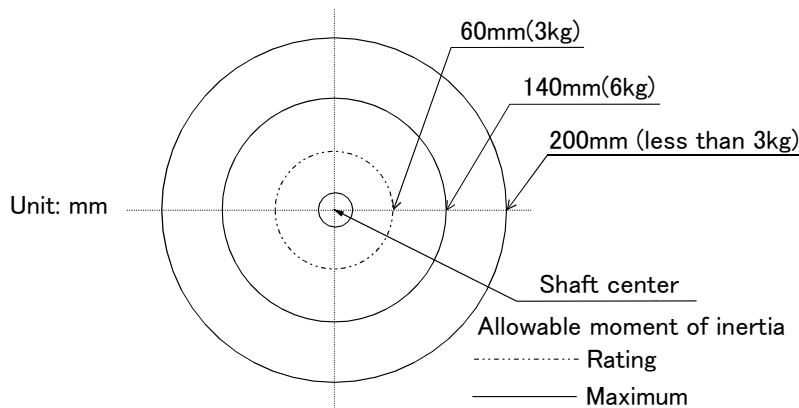
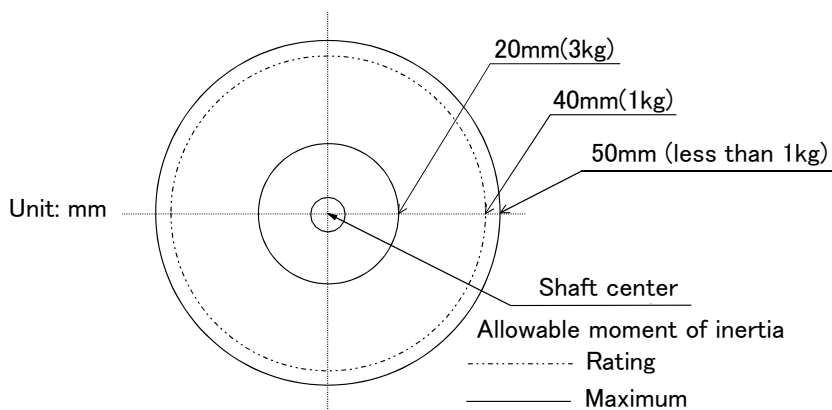

Fig.2-3 : Position of center of gravity for loads (for loads with comparatively small volume): RH-6FH series
Fig.2-6 : Position of center of gravity for loads (for loads with comparatively small volume): RH-3FHR series
- (1) The tooling should have the value less or equal than the smaller of the allowable moment of inertia found in Page 15, "2.1.1 Basic specifications".
- (2) Fig. 2-3 to Fig. 2-6 shows the distribution dimensions for the center of gravity in the case where the volume of the load is relatively small. Use this figure as a reference when designing the tooling. Please use the robot in the allowable moment of inertia of maximum moment of inertia shown in Fig. 2-3 to Fig. 2-6.